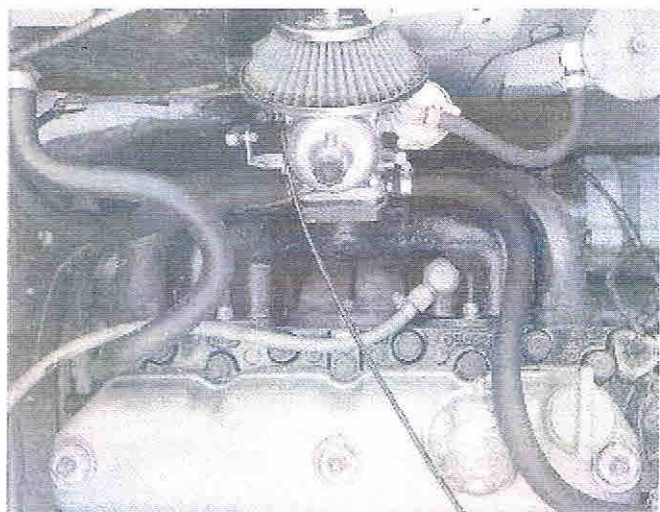

FIG. 6B
15. Connect water passage in return from heater. i.e. In line to fitting on thermostat housing. This is required to provide heat to prevent icing in cold damp weather. (See fig. 6B).